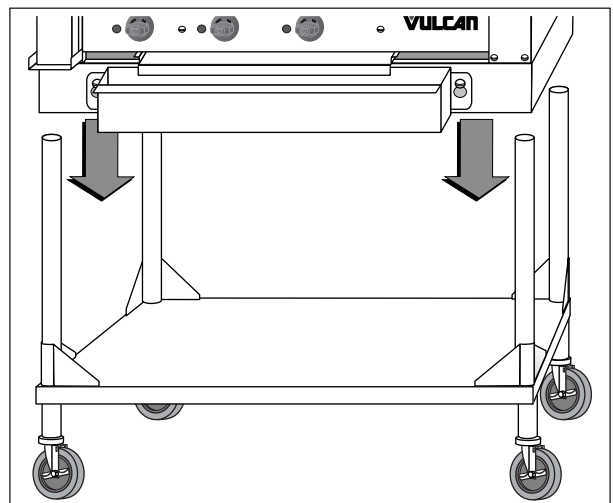

Figure 4
1. Lower Broiler onto the four (4) legs of the stand, supporting from under the body bottom (Fig. 4).